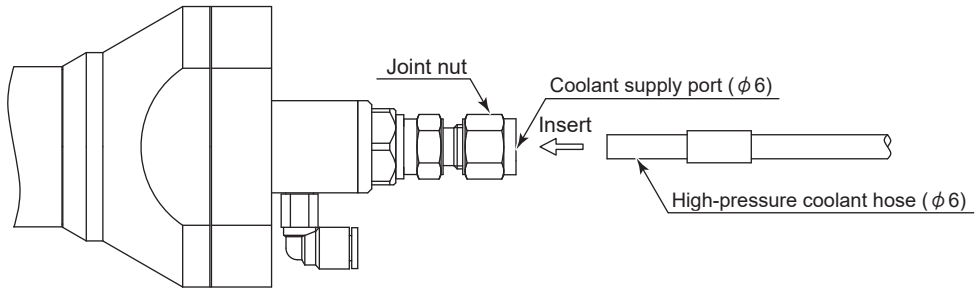

Fig. 19
- (1) Insert the high-pressure coolant hose (diameter $\phi 6$ mm) fully into the coolant supply port (diameter $\phi 6$ mm), and turn the joint nut clockwise to tighten it. (Fig. 19)